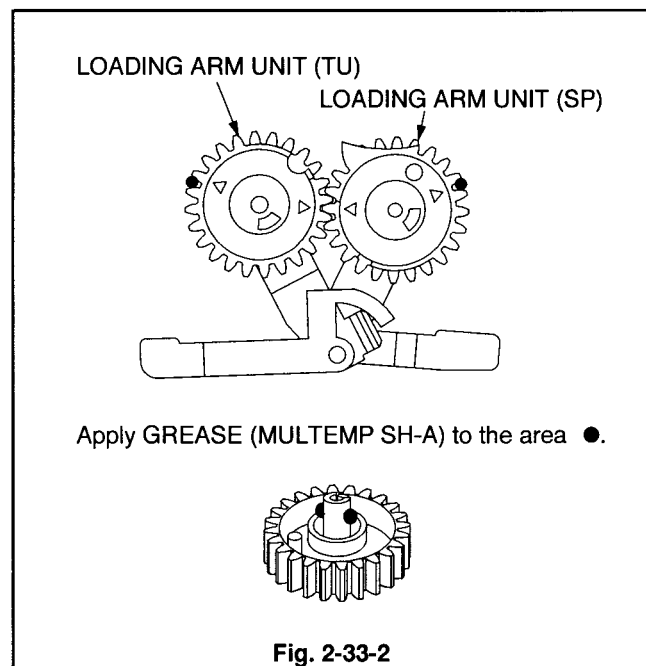

Fig. 2-33-2
- 1 Apply GREASE (MULTEMP SH-A) [859D055O80] to the area specified in Fig. 2-33-2 on the new LOADING ARM UNIT (SP).
- 3 Apply GREASE (MULTEMP SH-A) [859D055O80] to the area specified in Fig. 2-33-2 on the new LOADING ARM UNIT (TU).